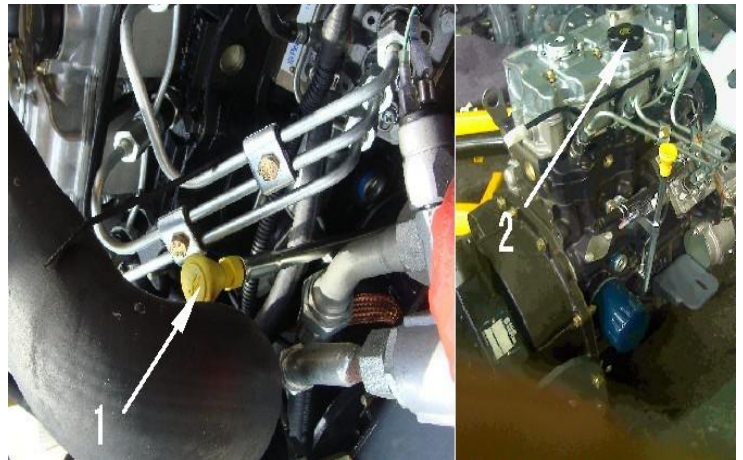

Fig. C-34
3. Draw out the oil-level gauge (Fig. C- 34/1) after one minute.
5. Draw out the oil level gauge, the oil level should be within the marks. If the oil level is only slightly above the "min." mark, replenish oil through the filler neck (Fig. C- 34/2).